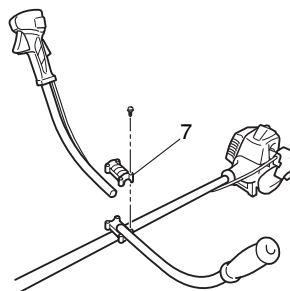

Fig. 4
Remove the handle bracket (7) from the assembly. (Fig. 4)